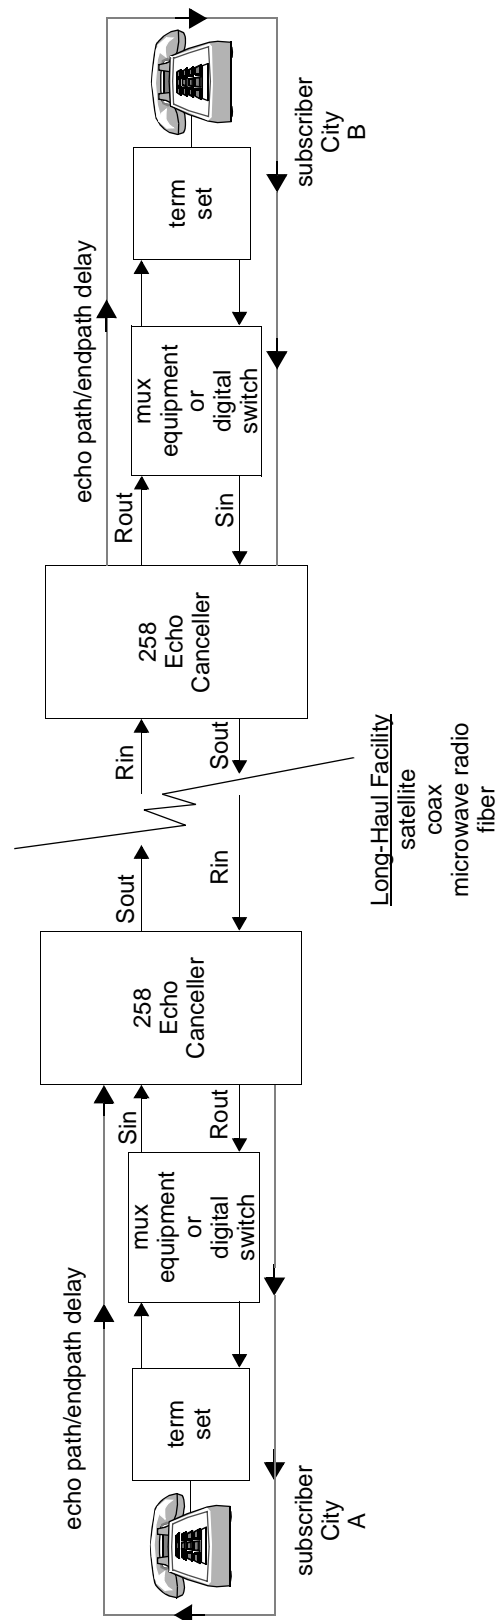

Figure 2-1 Typical 258 system long-haul facility network application
- 2.23 A typical 258 system application is shown in Figure 2-1. The primary cause of echo received at City B is the 4-wire-to-2-wire VF terminating set at City A. Transmission signal reflections at this interface are heard as echo in the corresponding far end receive channel. The City A 258 system actually protects the far end receive channels from echo. The City B 258 system protects City A receive channels from echo. This split-type configuration provides effective echo control regardless of the total delay in the intermediate transmission links.
- 2.28 When calculating endpath delay, the total round-trip delay between R-out and S-in (see Figure 2-1) must be considered.